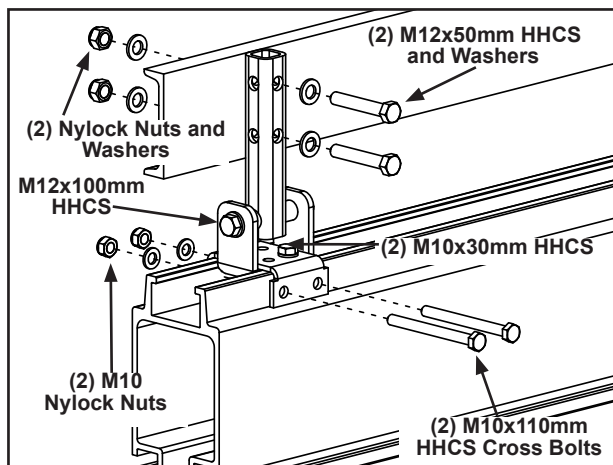

Figure 3-7
- Step 5. Align holes with bolt on C-Channel bracket holes. See Figure 3-7.
- Step 6. Insert two (2) M12 x 50 mm HHCS with M12 flat washers through hanger bracket and C-Channel. Install two (2) M12 nylock nuts with washers. **Tighten until bolts are snug + 1/4 turn.** Do not over tighten. Over tightening could cause bracket to bend.
- Step 7. Secure mounting bracket to rail by tightening two (2) M10 x 30 mm HHCS until lock washers are flat. Do not over tighten.